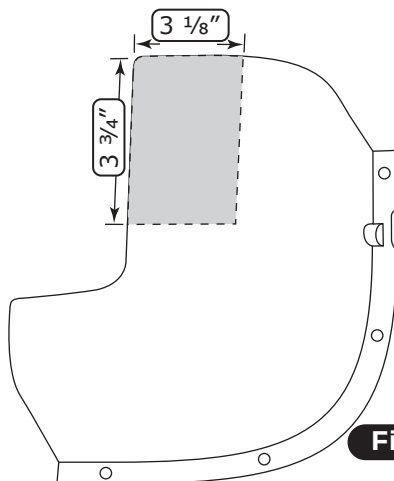

Figure 1
8. Modify the kick panel fresh air cover as shown in Figure 1, below.